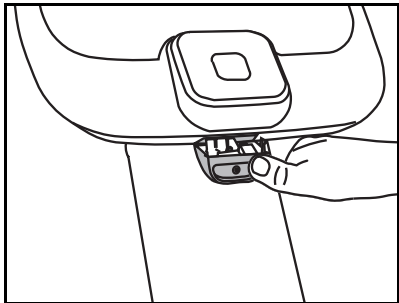

Figure 9: Snap headphone jack into place
10. Insert the headphone jack into the base of the display console. Snap the headphone jack into place by positioning the rear tab first, and then applying pressure to the base. See Figure 9.